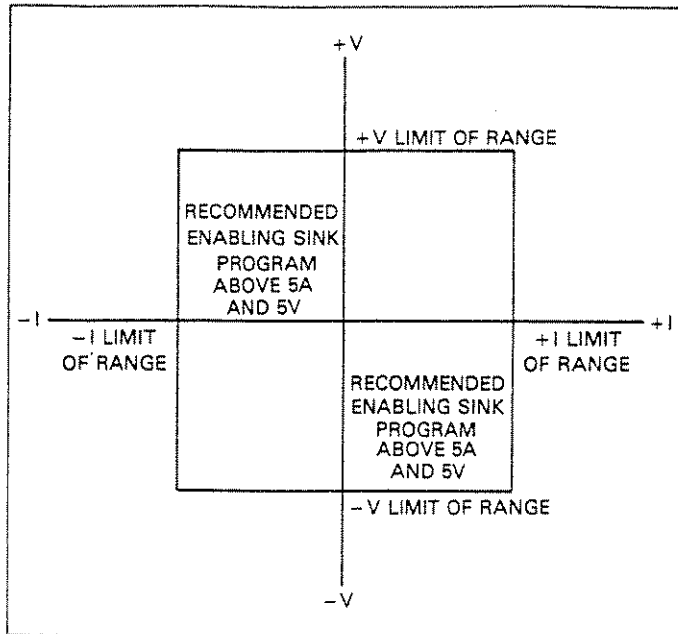

Figure 3-12. Model 228 Recommended Operating Limits
As can be seen by the graph and/or Figure 3-12, when voltage and current both have the same sign (positive or negative), the Model 228 is in the source mode.
If the voltage or current have different polarity, then the Model 228 is in the sink mode. In the sink mode, the Model 228 accepts power (dissipates) instead of providing the power. Operating the Model 228 as an active load dissipates power up to the limits shown in Figure 3-12. Of course, the limits shown in Figure 3-12 must not be exceeded.
3. Program the desired current value. In this example, the current is programmed as positive. The external source determines whether the Model 228 acts as a source or an active load. Refer to Figure 3-12 and/or the front panel COMPLIANCE graph.